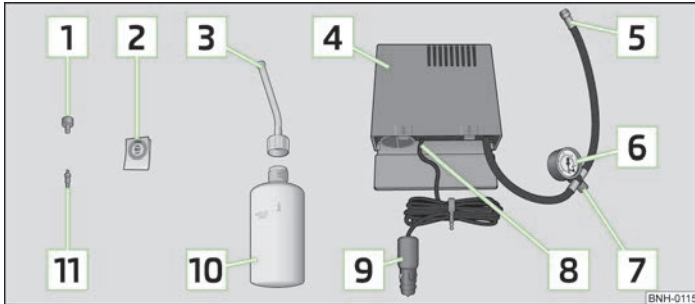

Fig. 116 Components of the breakdown kit
- Stick the sticker [2] » Fig. 116 on page 150 on the dash panel in view of the driver.
- Forcefully shake the tyre inflator bottle **10** » Fig. 116 on page 150 several times.
- Screw the tyre inflation hose **5** » Fig. 116 on page 150 of the air compressor firmly onto the tyre valve.